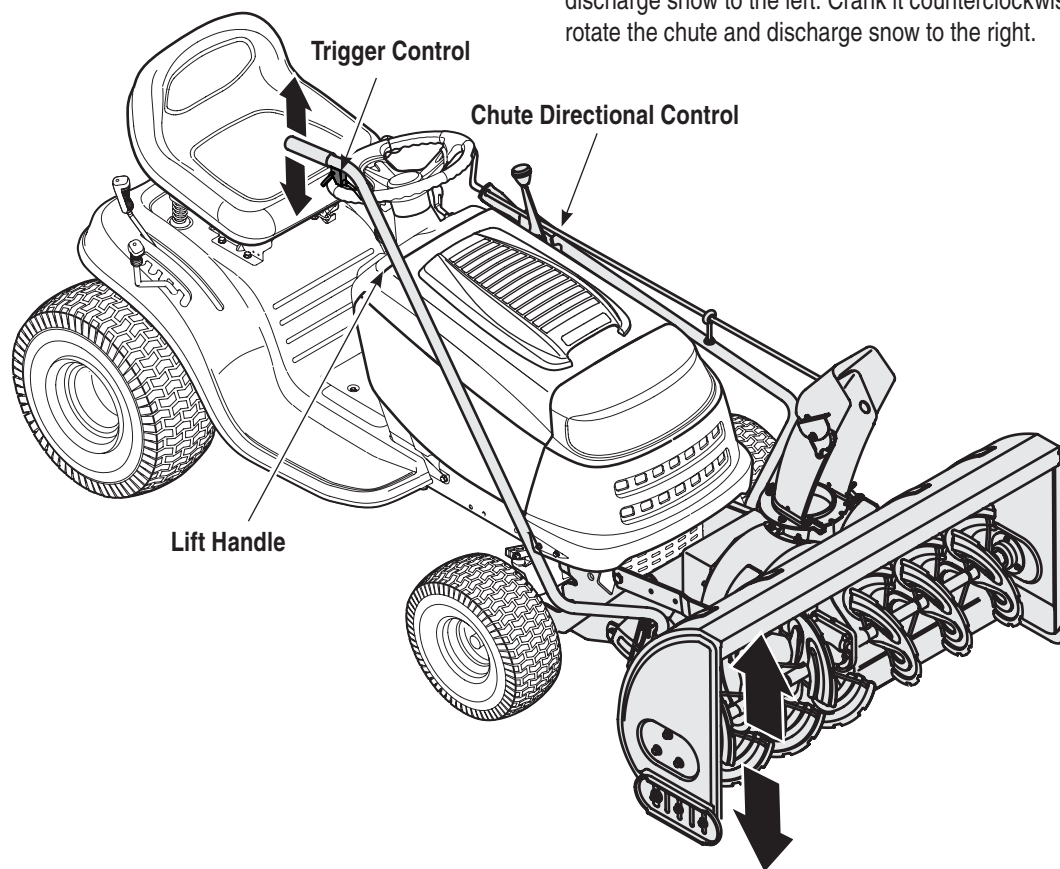

Figure 9-1
1. To raise snow thrower attachment off of the ground, pull rearward and down on the lift handle until you feel the lift latch on the right side of the snow thrower engage, locking the snow thrower in a raised position See Fig. 9-1.